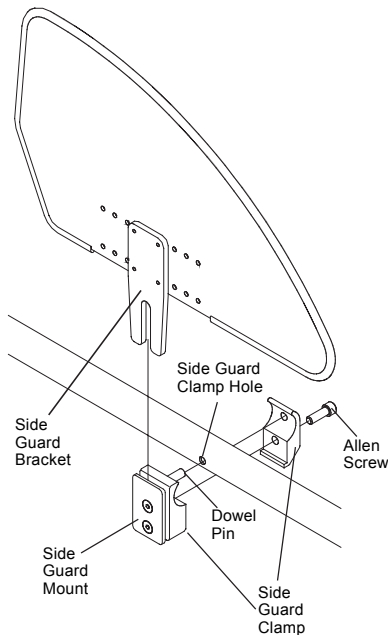

Figure 52
2. Remove the Allen Screw that secures the two halves of the side guard clamp to the frame. See Figure 52.
1. Align the two halves of the side guard clamp around the seat tube of the chair frame. See Figure 52.